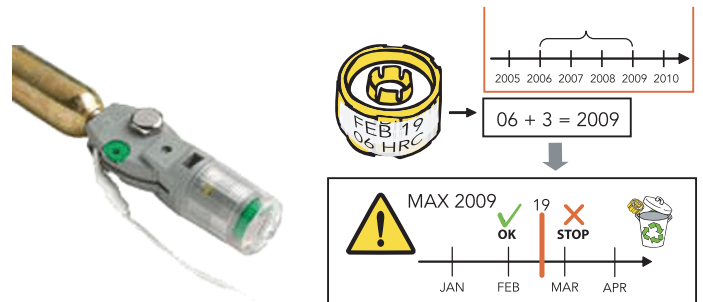

Fig 2. Halkey Roberts automatic valve
6.2 For Automatic models fitted with Halkey Roberts automatic valve with transparent head and water sensing bobbin (Fig 2.)